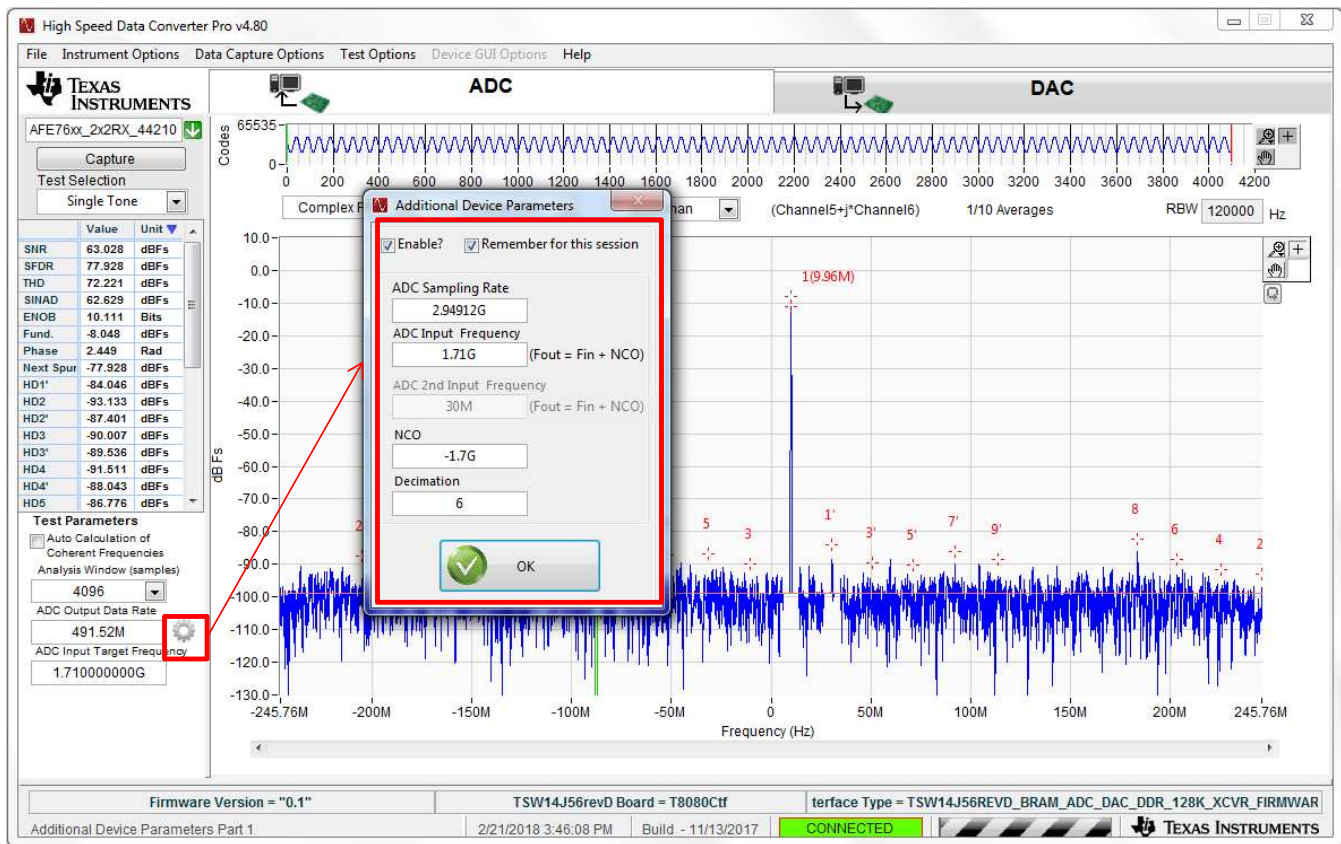

Figure 19. HSDC Pro Setup for RXADC Down-Conversion Calculation
2. Press the down-conversion setup button (Tool Box Icon) to start the down-conversion processing feature. The raw sample rate of the ADC is 2949.12 MSPS, with a decimation-by-6 feature. The down-conversion mixer is set to be -1700 MHz. The RF input is 1710 MHz, see Figure 19).